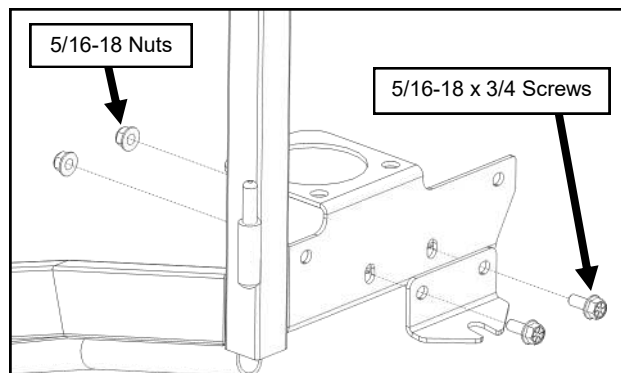

Fig. 4.2 (Pre-Assemble Bracket to Side Frame)
- 4.2 Pre-install a lower ROPS bracket to the left side frame. See Figure 4.2.